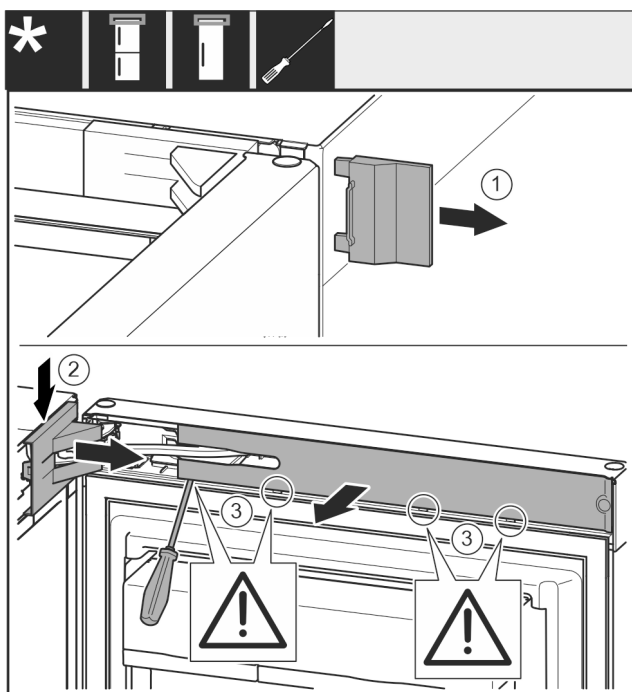

Fig. 8
- Remove the cover Fig. 8 (1).
- Snap out the swap bearing block cover Fig. 8 (2) and loosen it.
- Take off the swap bearing block cover Fig. 8 (2).
- Use a slotted screwdriver to snap out the faceplate Fig. 8 (3) and swivel it to the side.